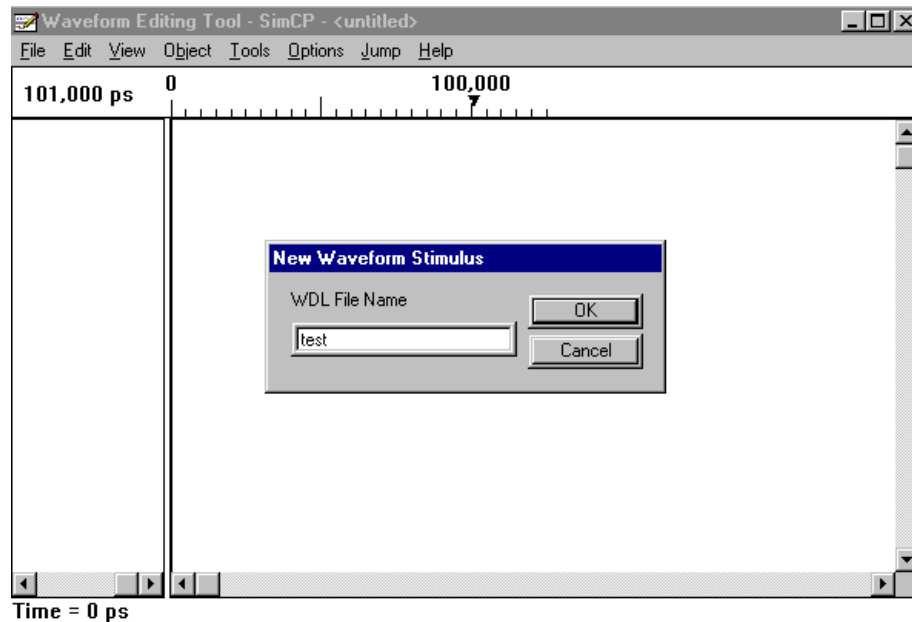

Figure 1-6. New Waveform Stimulus Dialog Box
3. Select the source with which you want to associate the .wdl file, then click **OK**. The Waveform Editing Tool appears with the New Waveform Stimulus dialog box (Figure 1-6).